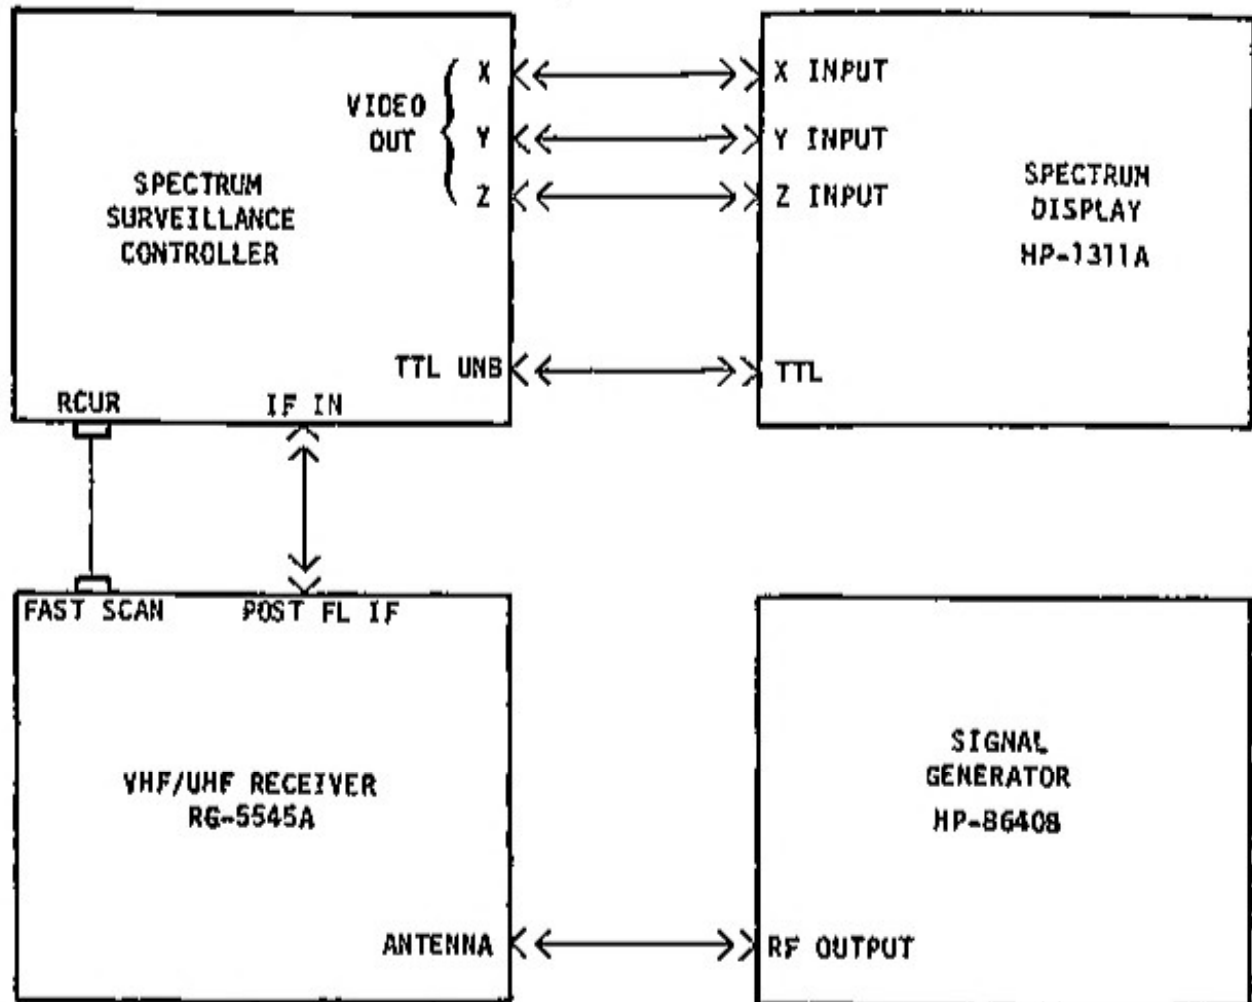

Figure 5-8. Fast Scan Mode Test Set-up
1. Connect test setup with the Spectrum Surveillance Controller, spectrum display, signal generator, and the Receiver as shown in Figure 5-8.